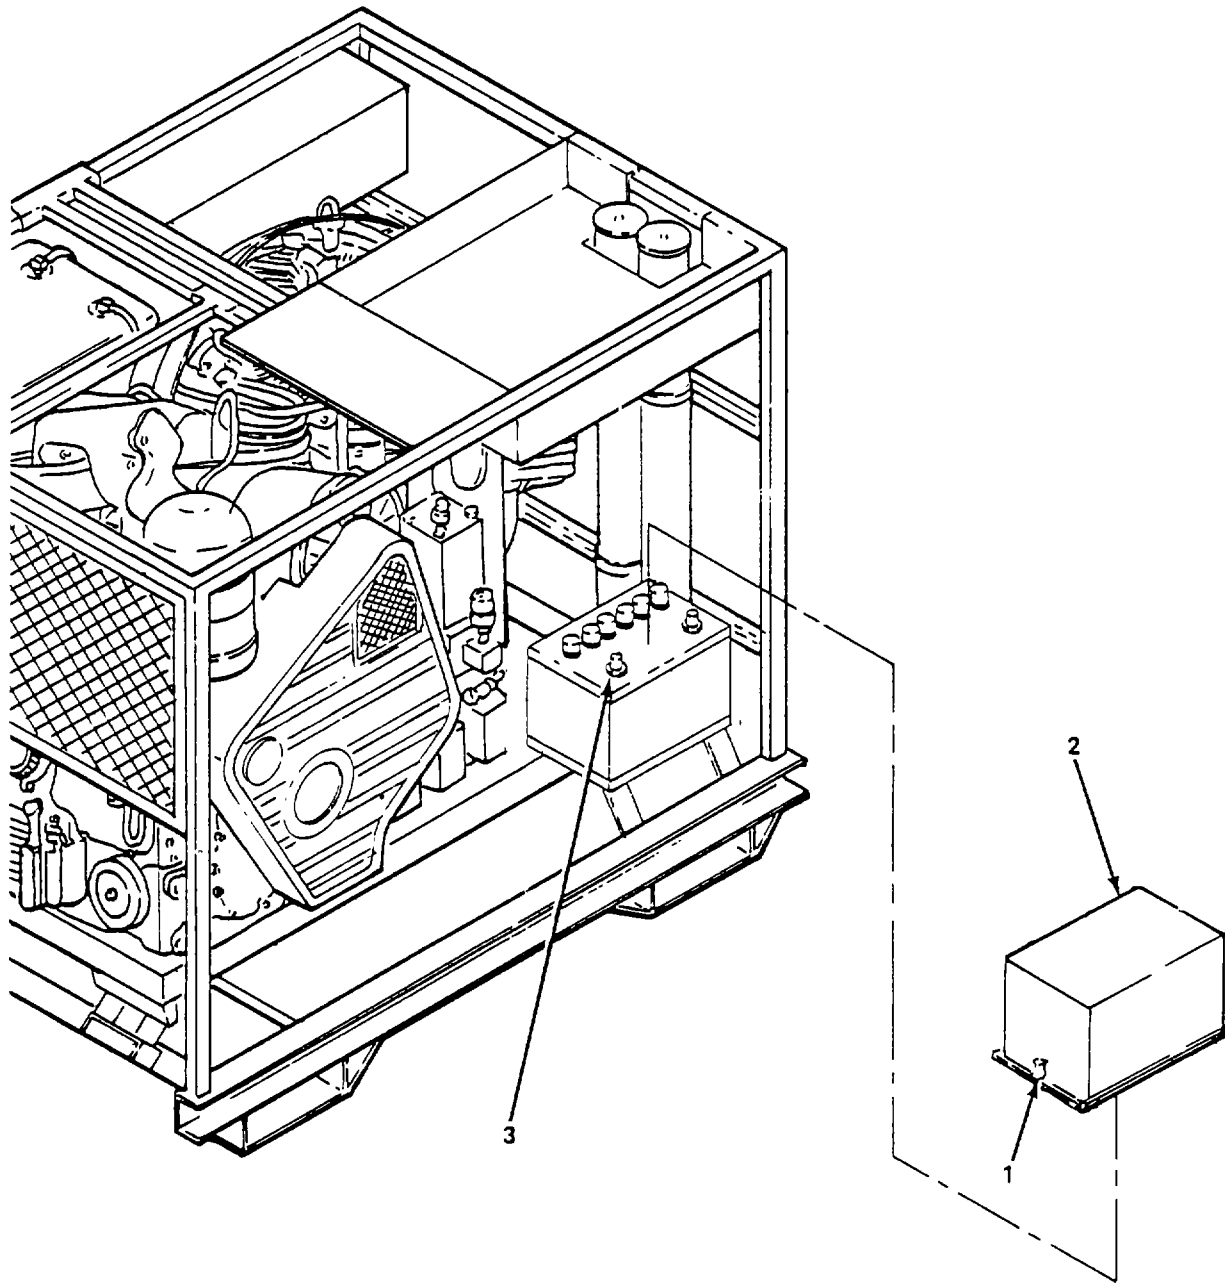

Figure 4-58. Battery, Test.
a. Test. (figure 4-58)**WARNING**